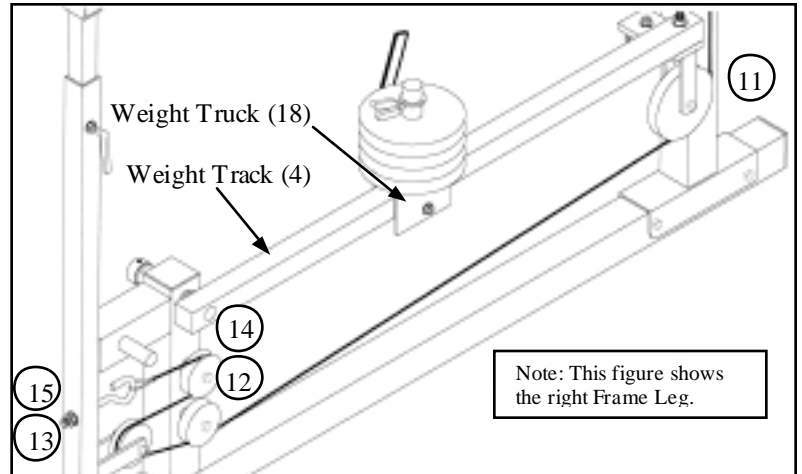

Figure 11
9. Over and Down around the pulley attached to the *Curl Arm* (30)
15. Finally, Hook the end of the cable to the *Hook Bolt* on the rowing arm (You will need to lift up the *Weight Track* (4) to complete this step).
H. Installing Weights (Figure 11)
1. Add desired weights to *Weight Truck* (18).
2. DO NOT EXCEED 65 POUNDS ON EACH TRUCK. AND SECURE THE WEIGHTS ON PEGS BY CLIPPING SPRING CLIPS (74) TO TOP OF WEIGHT TRUCK PEGS.